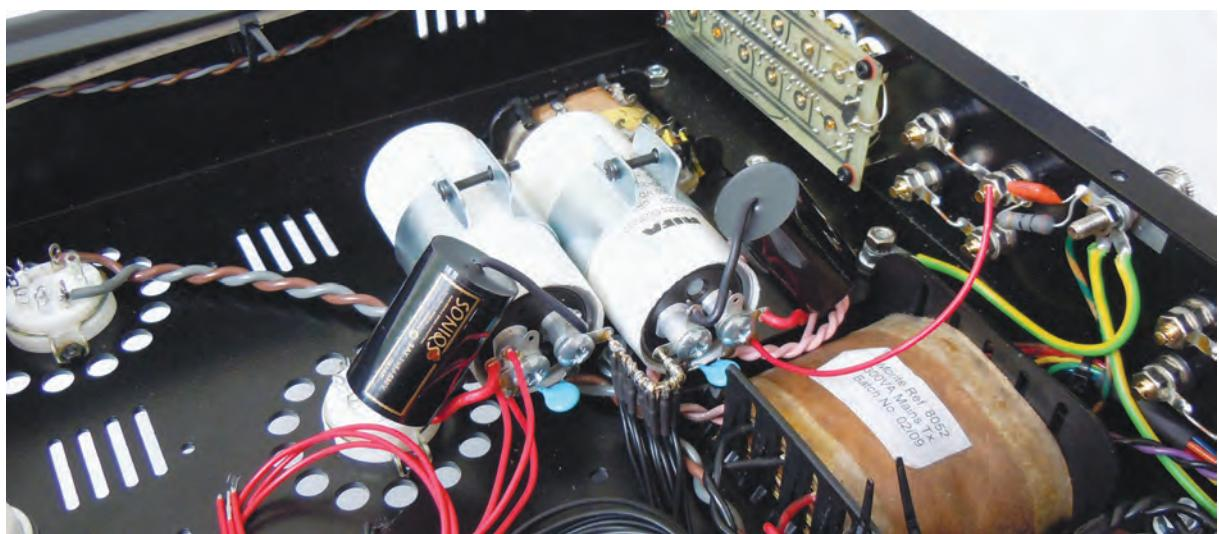

Fig. 19 Fitting the Power Capacitors
**Fig. 19** Fit C12 and C13 into their mounting clips so that the negative terminals are next to each other. Rotate the clips slightly anti-clockwise, insert C12 and then straighten the clips. C12 should be just clear of the right output transformer and there should be enough room for all the connections at the mains transformer end. You can now slide in C13 so that the terminals are about 10mm from the choke - check that the right channel Output Board will fit behind it.